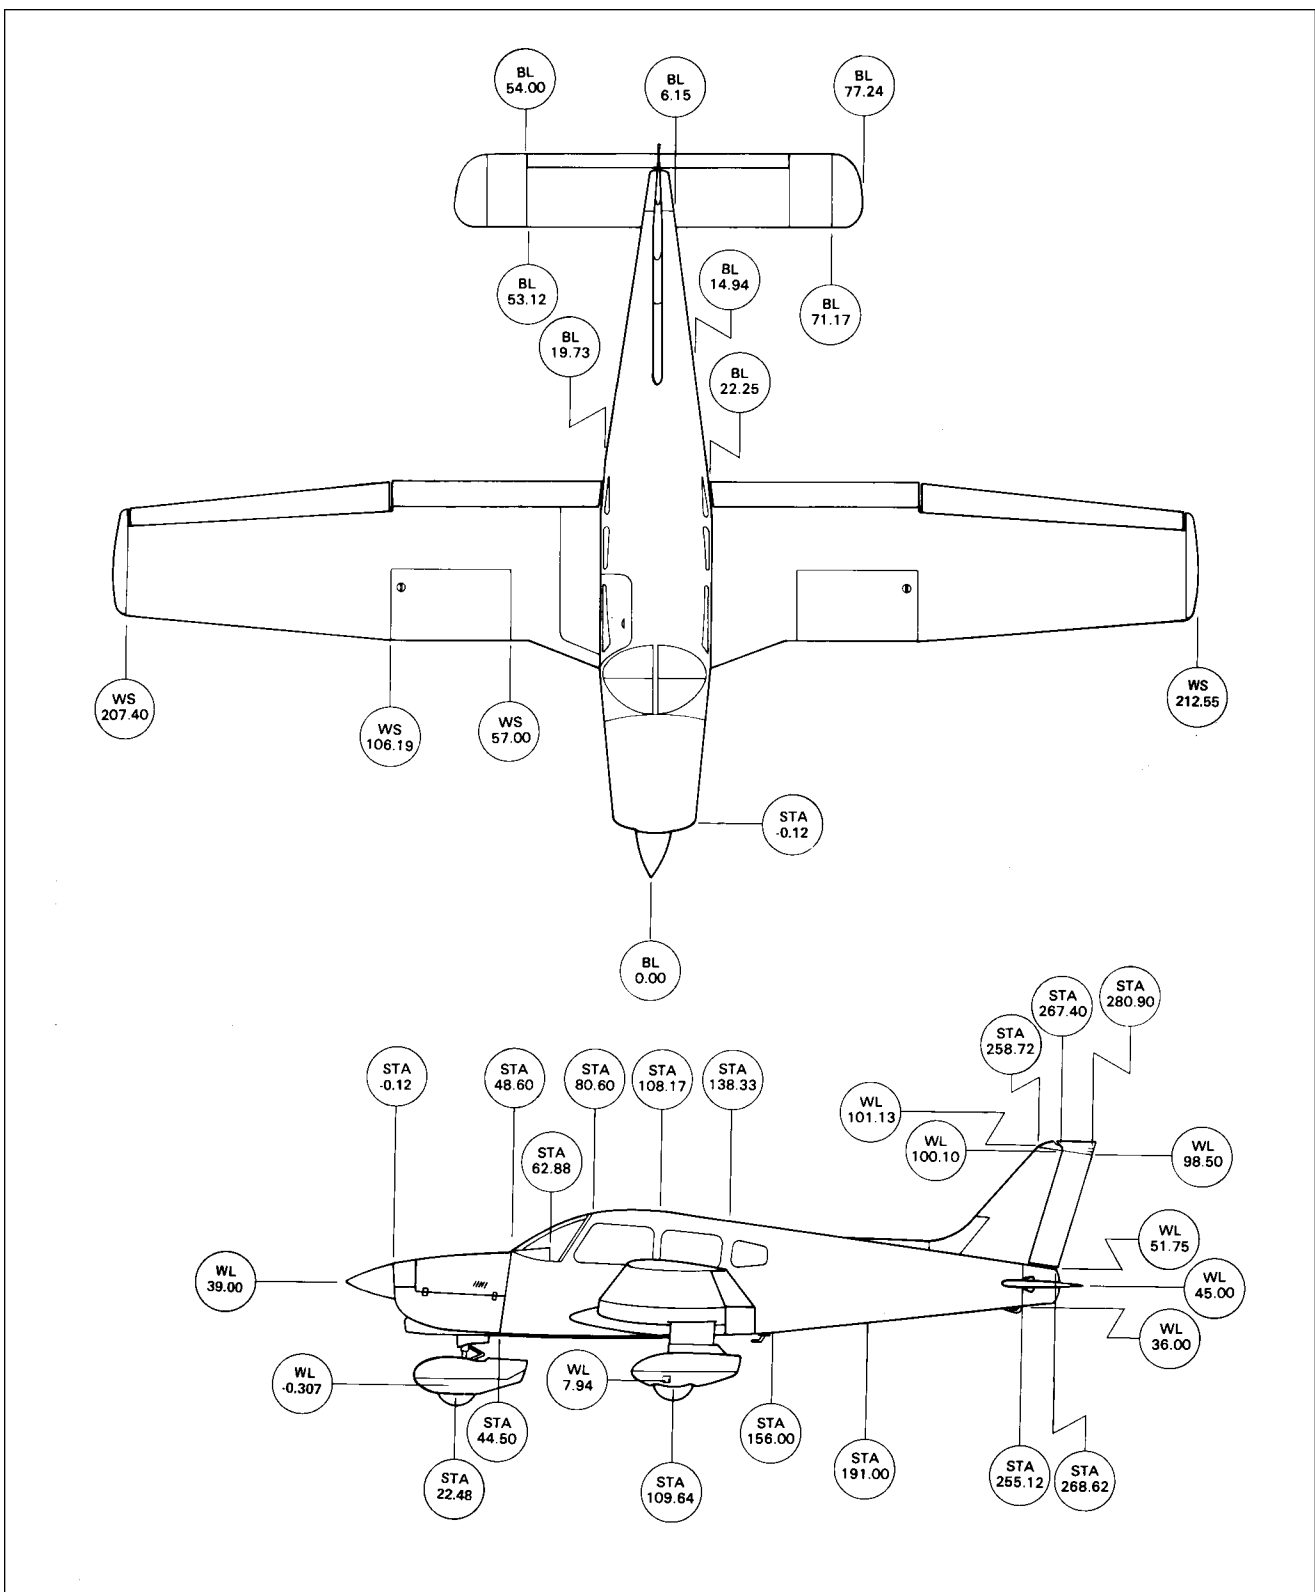

Figure 6-2. Station Reference Lines
In order to facilitate the location of various components of the airplane which require maintenance and servicing, a method utilizing fuselage station (Sta.), wing station or buttock line (BL), and waterline (WL) designations is frequently employed in this manual. (Refer to Figure 6-2.) Fuselage stations, buttock lines, and waterlines are reference points measured by inches in the vertical or horizontal direction from a given reference line which indicates station locations of structural members of the airplane.